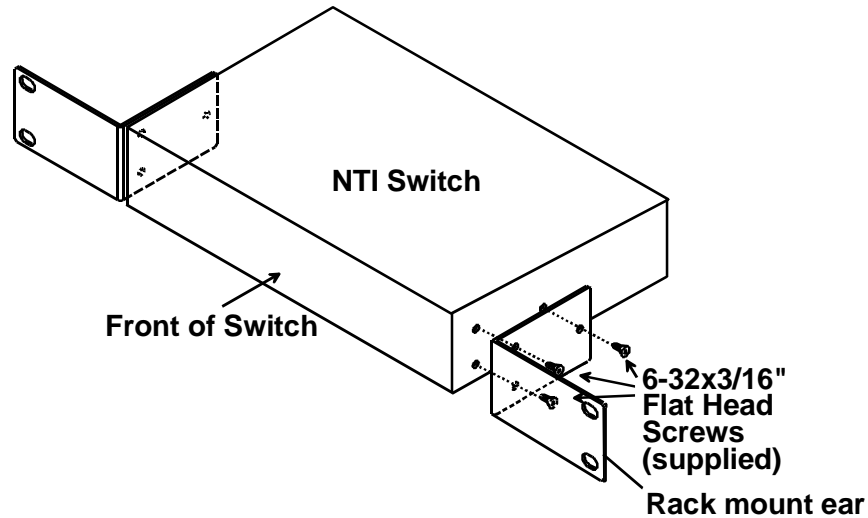

Figure 1- Secure rack mount ears to switch
2. Connect a VEXT-xx-MM cable from the video port of a video source to a 15HD female video connector labeled VIDEO 1 on the VEEMUX. (See Fig. 1)